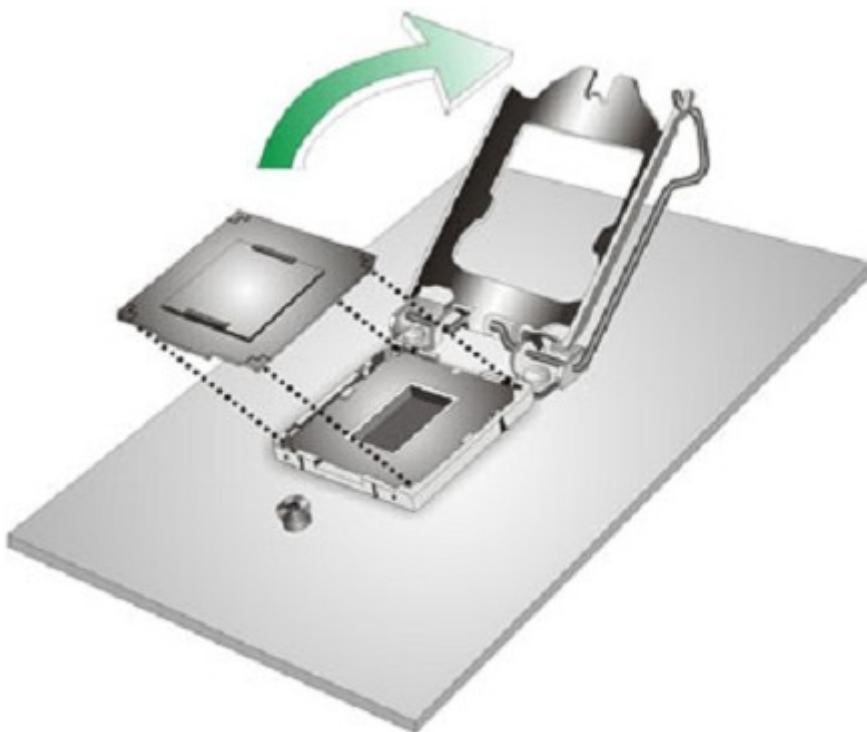

Figure 4-2: Remove Protective Cover
- Step 2:** **Open the socket and remove the protective cover.** The black protective cover can be removed by pulling up on the tab labeled "Remove". See **Figure 4-2**.